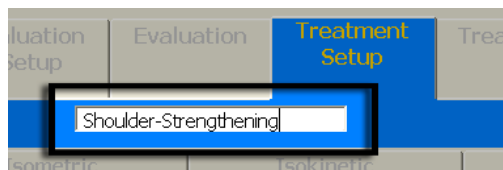

Figure 5e
**Note:** This name can be edited at any time by touching the “Modify” button (Figure 5d) and placing the cursor in the white text field at the top just underneath the *Treatment Setup* tab (Figure 5e). Use the keyboard to change the template name and hit “Save.”
- c. Notice that the template name is displayed in the text field directly underneath the *Treatment Setup* tab (Figure 5e).
- e. This will make all fields active, including the template name text field (Figure 5e). If you want to rename the template, click inside the white text field to place your cursor.
This will make all fields active, including the template name text field (Figure 5e). If you want to rename the template, click inside the white text field to place your cursor. Clear undesired text using the delete/backspace keys on your keyboard and type in your new name.
- d. This will make all fields active, including the template name text field (Figure 5e). If you want to rename the template, click inside the white text field to place your